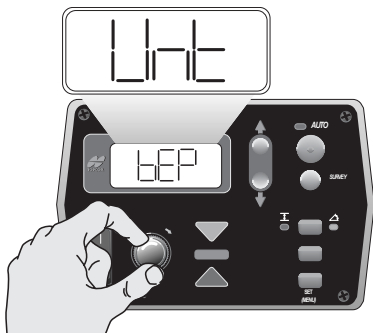

Figure 15. Scrolling through the Performance Menu
2. Rotate the Grade Adjustment Knob to scroll through the menu selections located on the LCD (Figure 15).